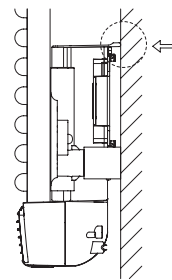

FIG. 7
- immediately below or in front of a power socket or a junction box (Fig. 7)